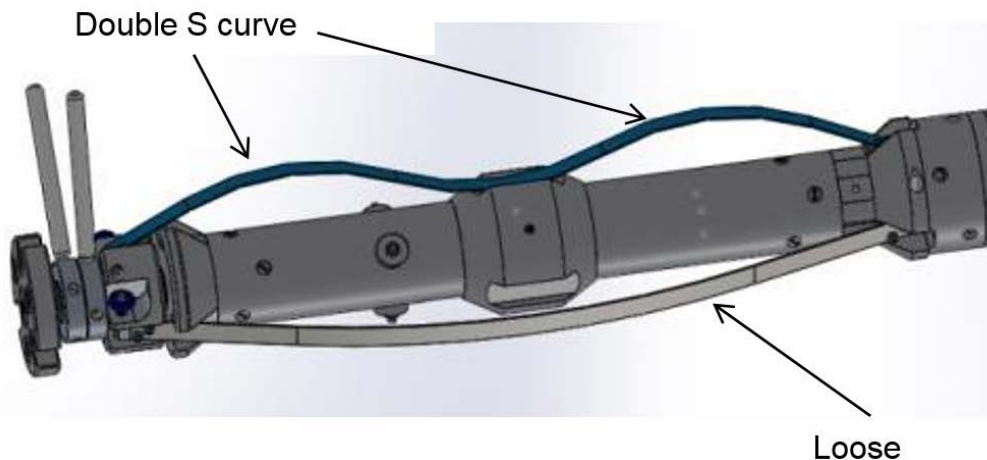

Figure 43. Anti-Torque Spring Curve
9.2.21 Shake out the chips located above the core plug. The chips are shaken out the top of the inner barrel. If the chips do not come out, you can CAREFULLY tap the inner barrel with a dead-blow hammer to release them. It can help if you place a screwdriver or dowel through the parallelogram-shaped holes – this will prevent the core plug (and the ice core itself!) from flying out of the barrel, Figure 43. The chips can be collected for analysis (e.g., pollen).